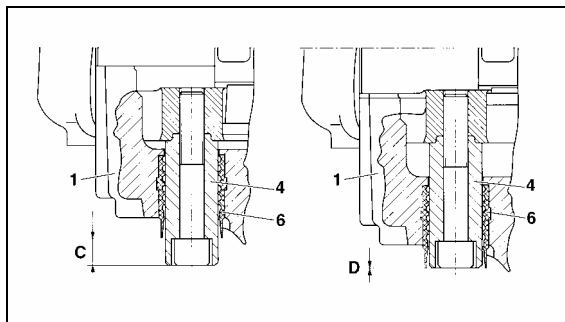

FIGURE 23: BRAKE PAD CHECK
Brake pads have to be checked on a regular basis depending on the vehicle operation. The remaining thickness of the pads should never be less than 3/32 in (2 mm). To check pad condition without removing the wheel, verify the position of guide bushing (6) relative to guide sleeve (4) (see Fig. 23). When guide sleeve is in alignment with guide bushing, brake pad thickness has to be checked more precisely with the wheel removed. When replacing brake pads, all four pads on an axle have to be changed at the same time. There is no inner or outer pad, since all pads are the same. Once removed, worn pads should be replaced in their original position.